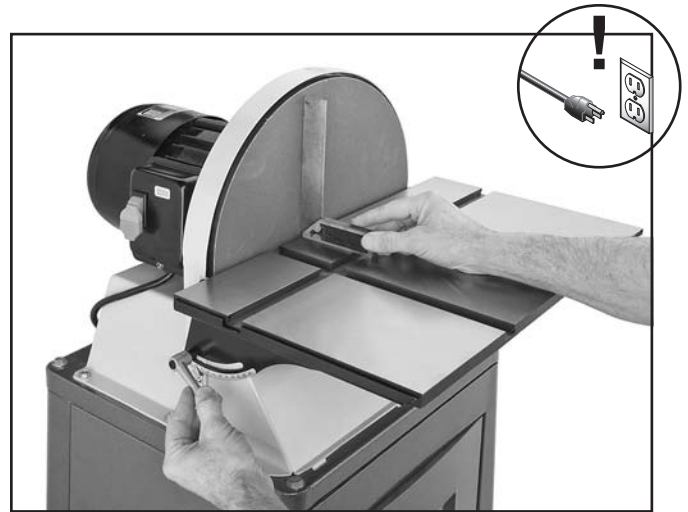

Figure 26. Squaring the table.
2. Using a try square or machinist's square, set one edge on the table surface and the other against the face of the disc, as shown in **Figure 26**.